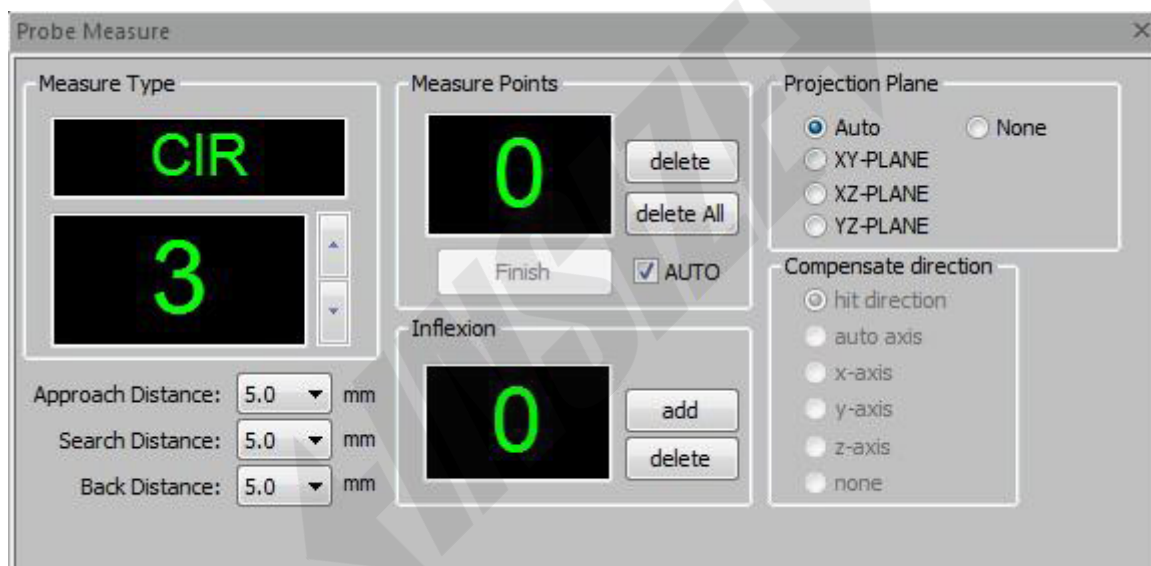

Fig.2-29
2. Select "magnifying" order in the measuring method window, a red rectangle (Fig.2-28) will appear in the image area, a sub window will popup within the red rectangle at the same time (called magnified window shown as Fig.2-29). The target element will be enlarged threetimes in a full screen.